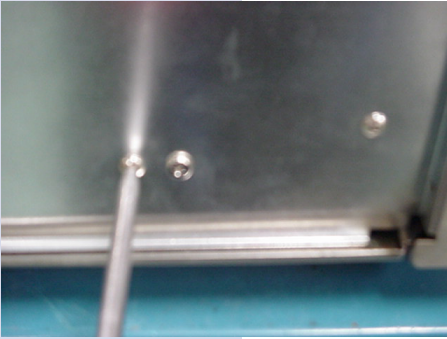

Figure 3
4. Remove the 2 screws on each side of the burner box. (Figure 3)